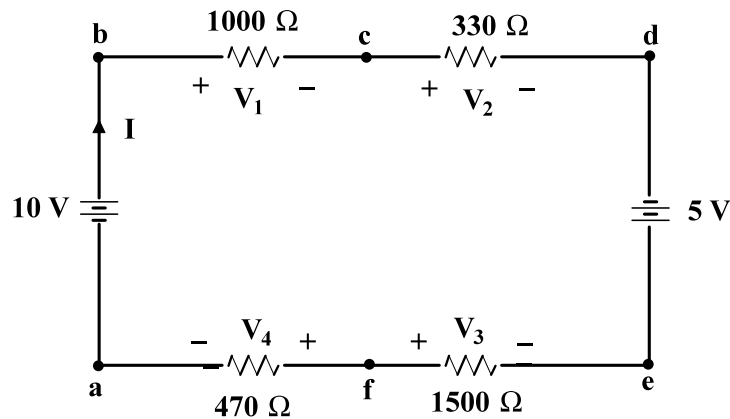

Figure 1.14: Circuit for Prelab Exercise, Part 1PE.
- Determine the current I as shown in Figure 1.14.